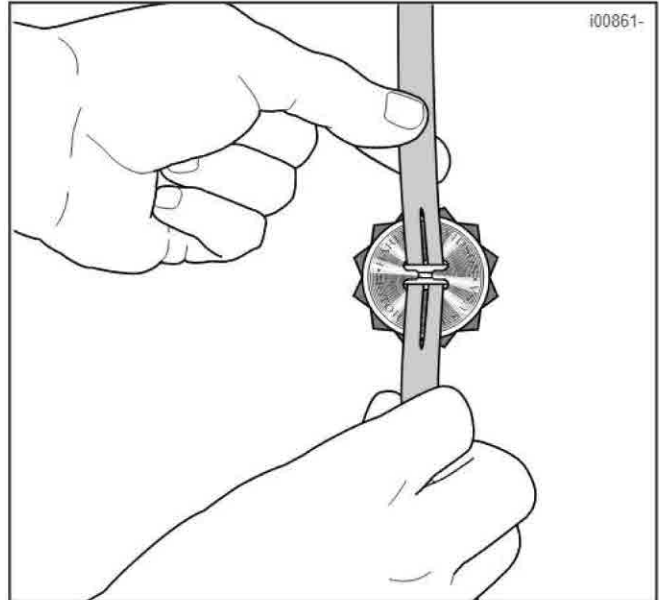

Figure 2. Slip Rosette and Medallion Onto Tie
2. See Figure 2. Center the tie with the rough side facing toward you. Slip the rosette and medallion onto the leather tie through their respective slots. Pull the rosette and medallion snugly against the surface of the item and check to be sure the tie is centered.